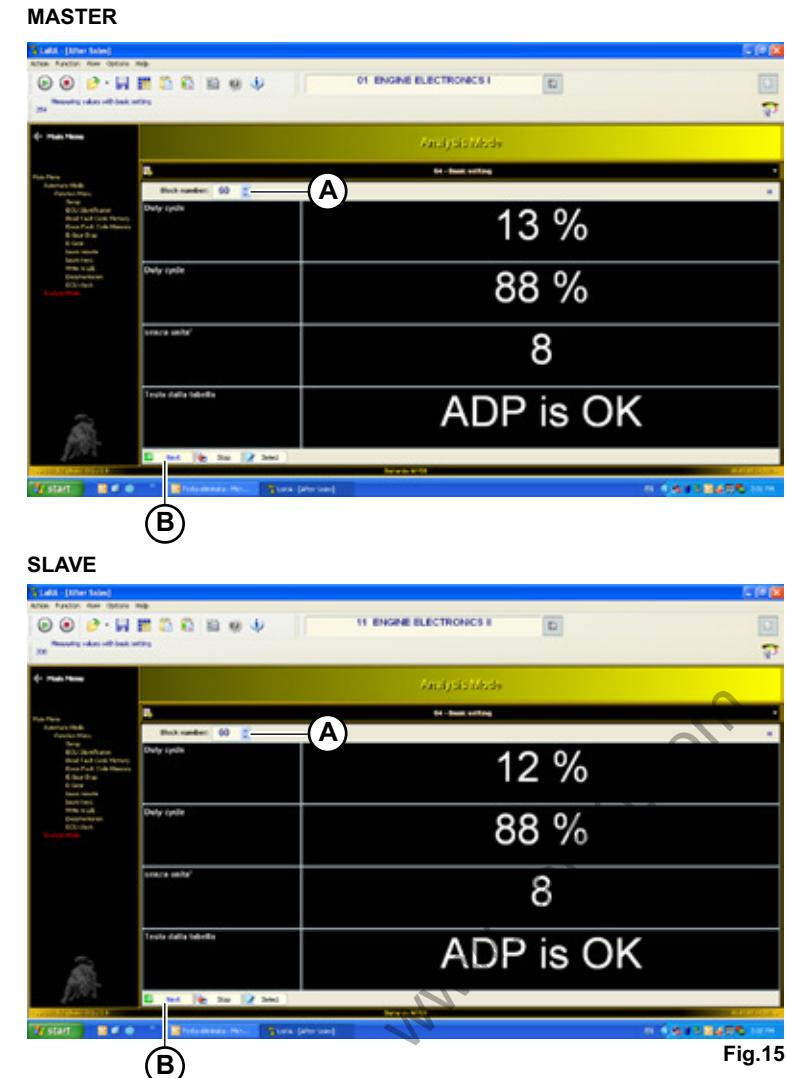

Fig.15
- Select routine 60 inside the block number (A-Fig.15).
- Start the connection () and press the start push-button (B-Fig.15).